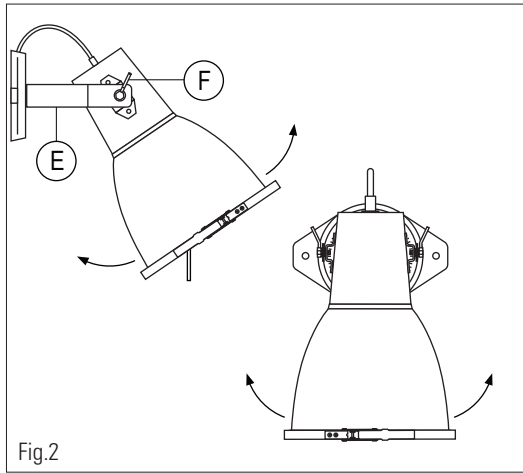

Fig.2
- The shade can be rotated by swivelling the bracket (see Fig.2) - ONLY DO SO WHEN THE LIGHT IS OFF AND COOL.